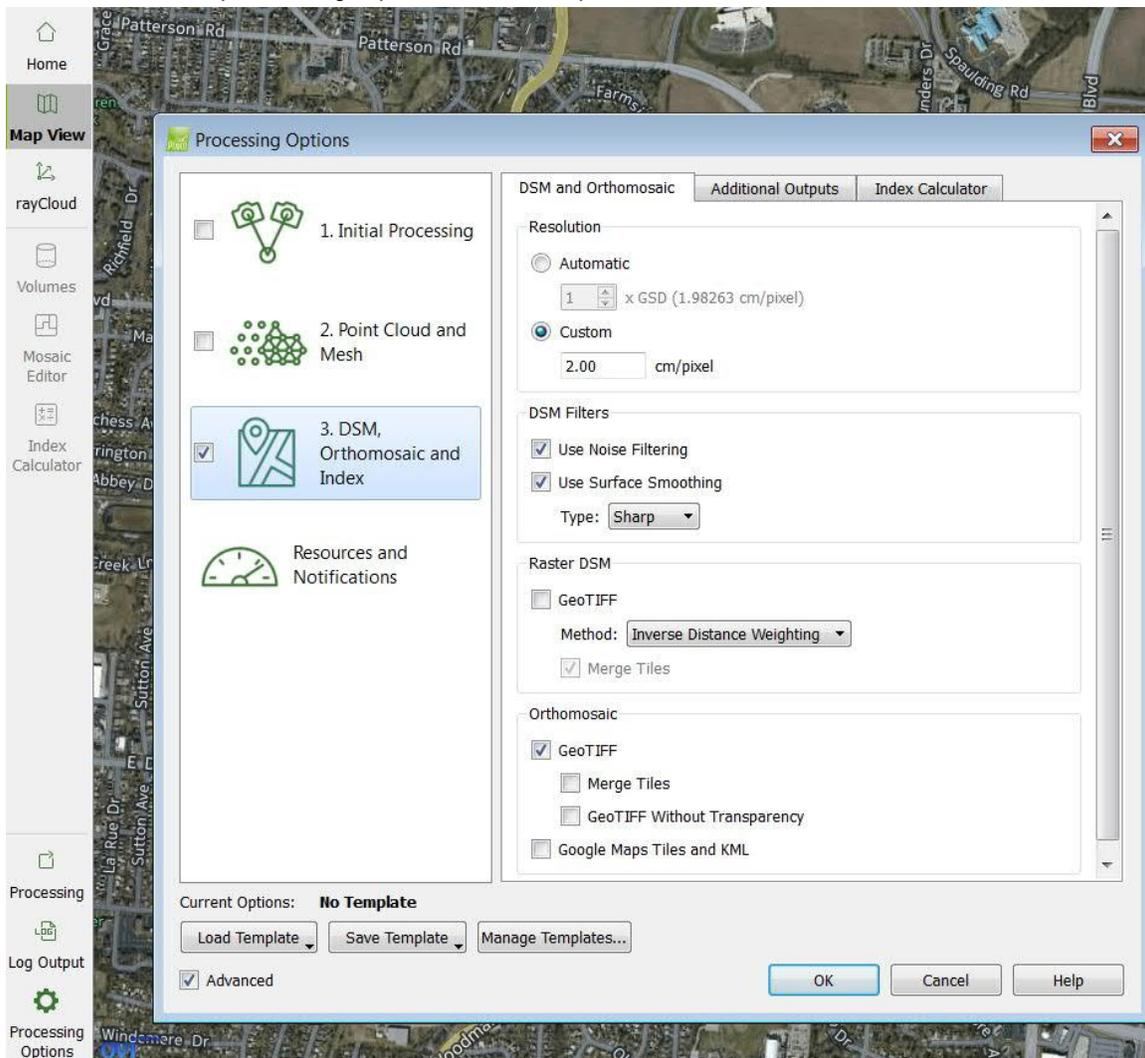

Figure 5 Orthomosaic setup
- 7) Use the "processing options" tab in the lower left of the interface to setup the value of the pixel resolution to 2.0 [cm/pixel] which is within the tab "DSM and Orthomosaic Index", see Figure 5.